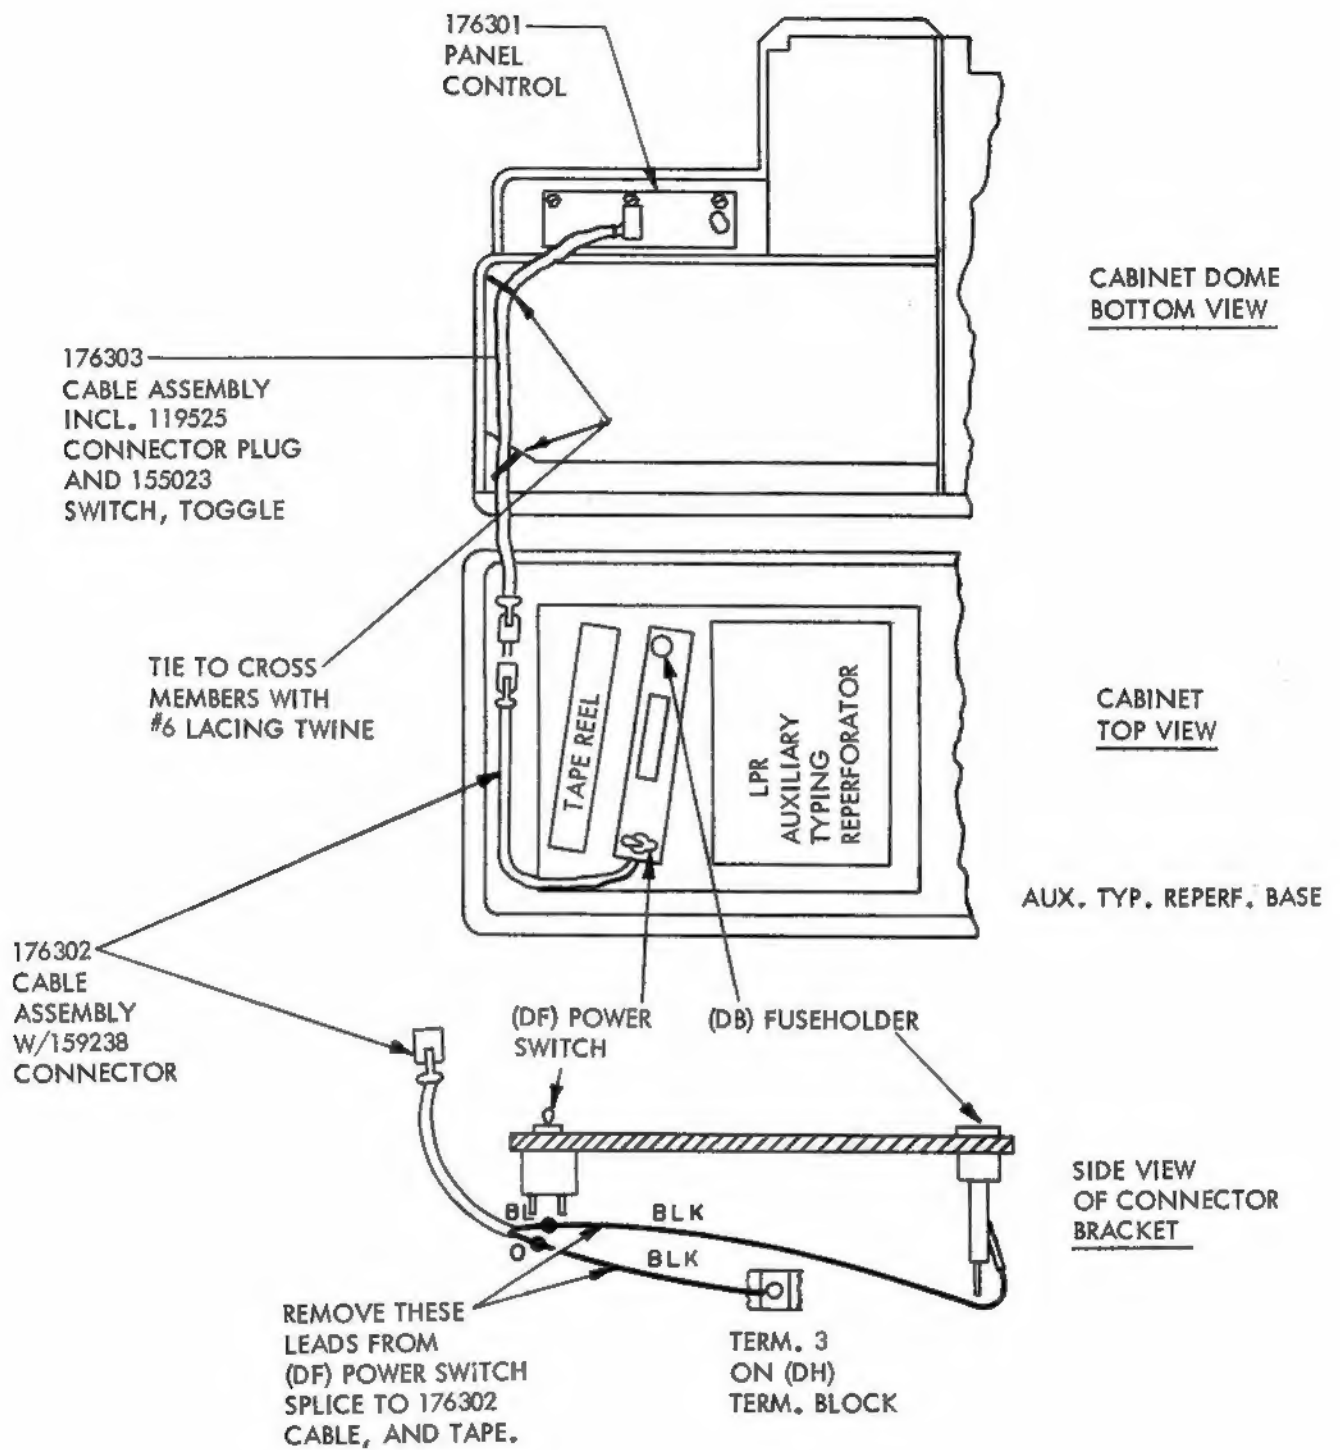
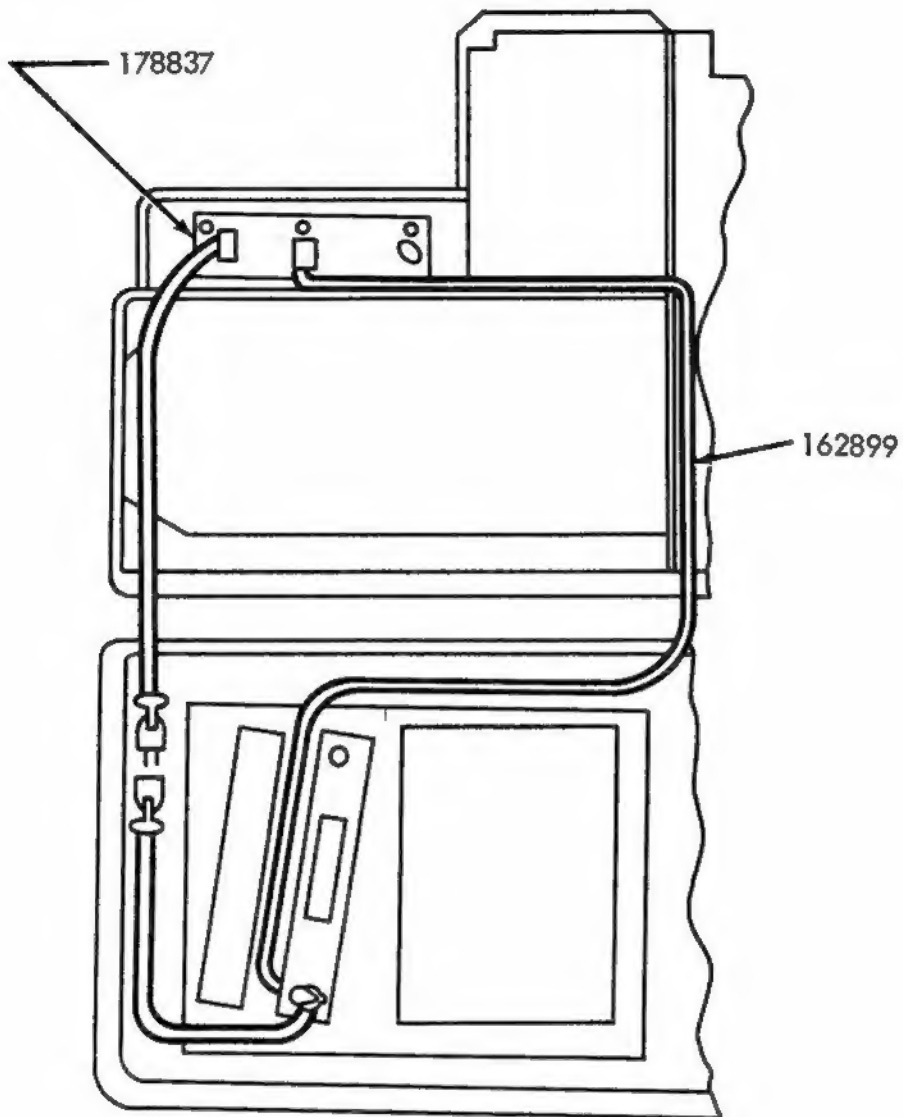
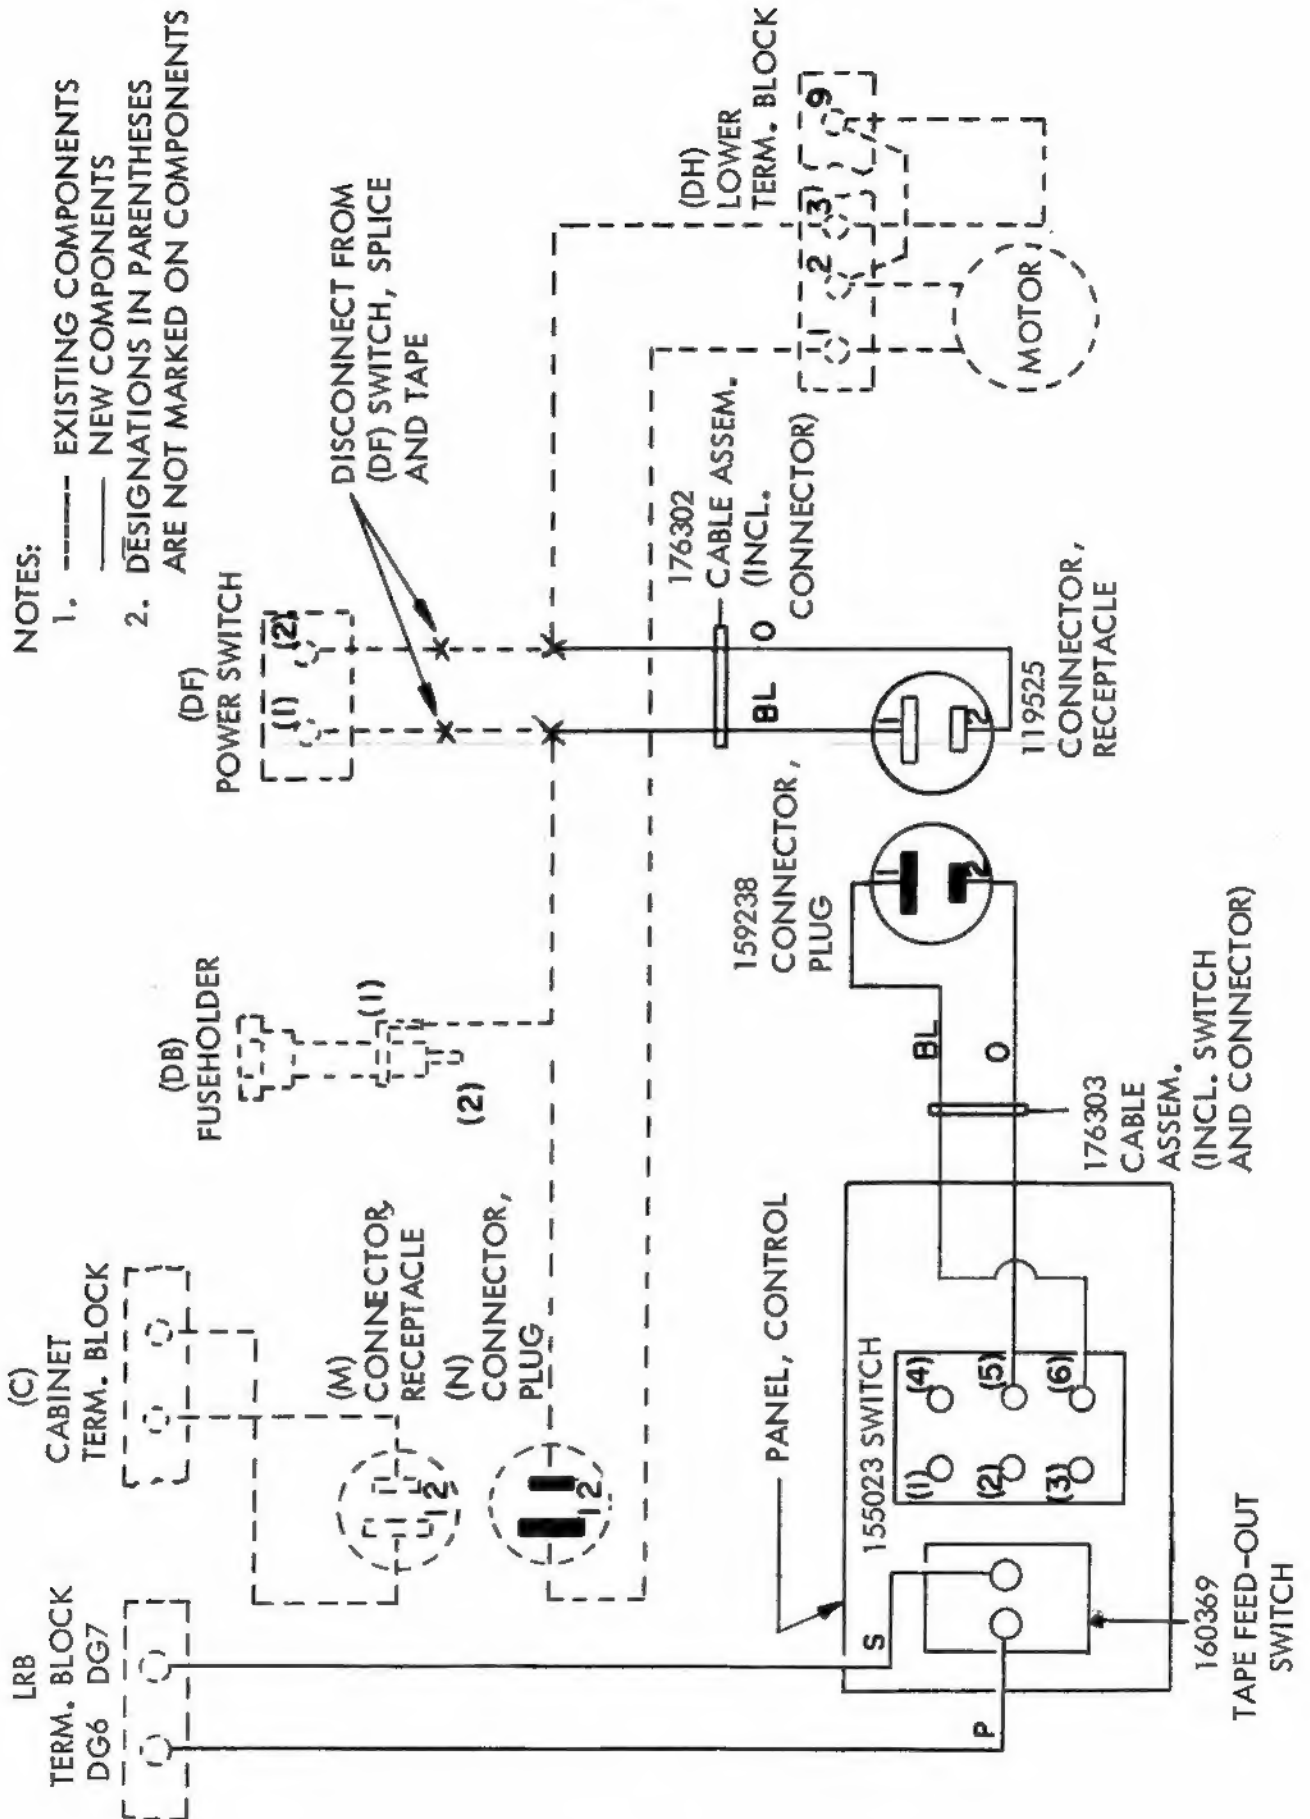

FIGURE 1
FIGURE 1A
FIGURE 2
a. 176300 Modification Kit (Figures 1, 2 and 3)
(1) Remove the three nuts, lock washers and flat washers which hold the blank panel to the cabinet. Remove and discard the blank panel.
(2) Mount the 176301 Control Panel in the long channel at the top of the control panel cut out, and over the screw studs below the cut out.
(3) Secure the 176301 Control Panel to the cabinet using flat washers, lock washers and nuts previously removed.
(4) Mount the 155023 Switch and the 120175 Instruction Plate in the hole provided in the control panel so that the threads are not visible on the outside of the control panel. Take care so as not to mar the nut or panel.
(5) Extend the 176303 Cable from the 155023 Switch to the left of the cabinet dome and secure to cross members at front and rear of dome with #6 lacing twine.
(6) Remove (DF) Power Switch from its mounting bracket on the reperforator base. Remove the two leads from the switch and splice to the 176302 Cable, as shown in Figure 2. Discard the switch.
(7) Connect the plug and receptacle to complete the circuit between the control panel switch and the reperforator motor circuit.
b. 178838 Modification Kit (Figures 1A, 2)
(1) Turn off power.
(2) Remove tape holding panel assembly from the Reperforator Base.
(3) Follow procedure in Paragraph 2.a.(6).
(4) If no tape feed-out switch is present, install the 162899 Cable Assembly (tie to existing cable) between the control panel and reperforator base terminals DG6 and DG7; if present, discard the 162899 Cable Assembly.
(5) Remove tape feed-out switch (if present) from the control panel of the cabinet.
(6) Remove and discard the existing control panel on the cabinet. Install the 178837 Control Panel on the cabinet.
(7) Reinstall the tape feed-out switch if removed in Paragraph 2.b.(5).
(8) Follow procedure in Paragraph 2.a.(4) and (5).
(9) Reinstall the tape holding panel assembly.
(10) Follow procedure in Paragraph 2.a.(7).
(ALSO SEE FIGURE 1)